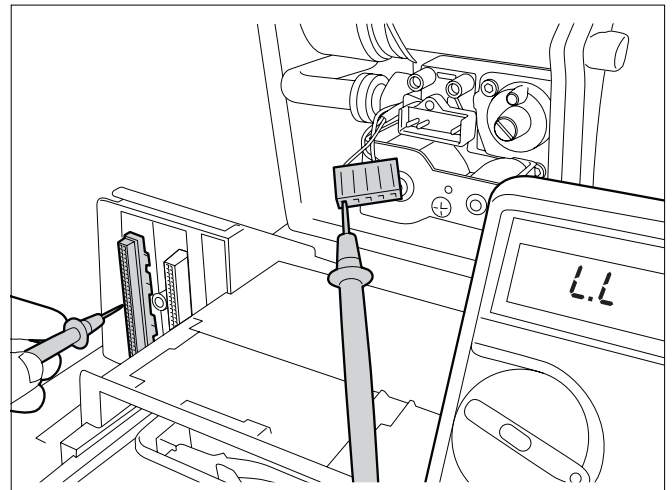
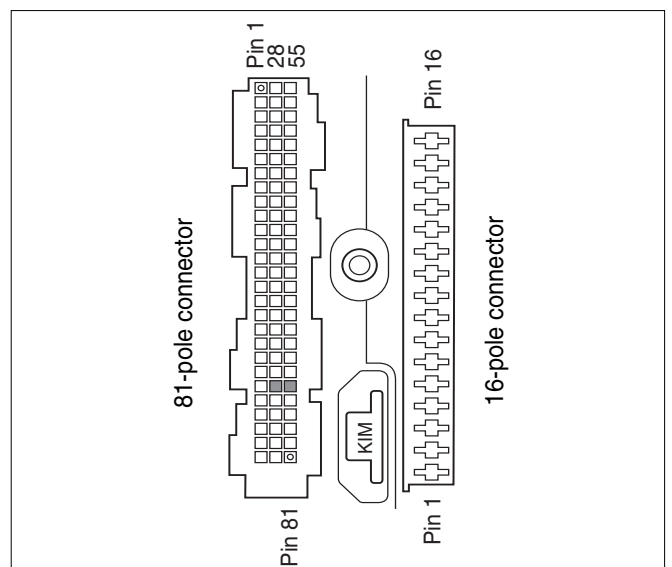

Fig. 75 Testing the cable between the gas control valve and the UBA3 installation base
Fig. 76 UBA3 installation base
- Test the resistance of the cable between the plug of the gas control valve and the UBA3 installation base (see fig. 75, fig. 76 and circuit diagram, fig. 25 on page 26).